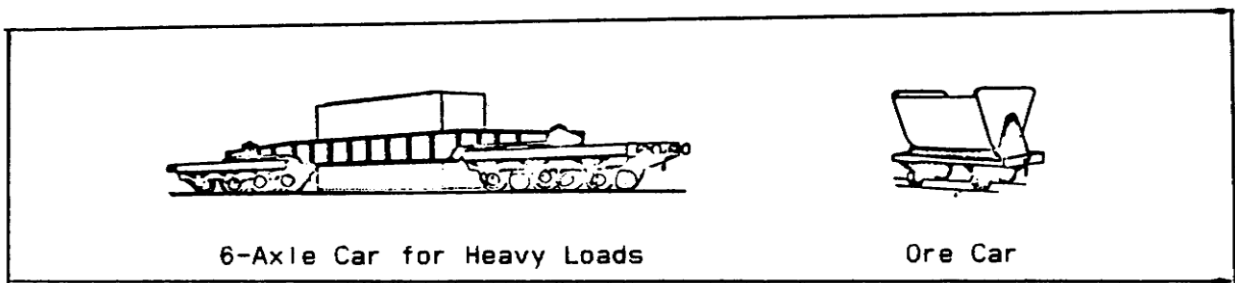

Figure 1-43. 6-Axle Car and Ore Car.
g. Other types. More rolling stock is being developed toward a specific purpose or load, such as the large boxcar or the open three-decker automobile types. Ore cars are another type of car made for one specific load. They are often found on narrow gauge track as well as standard gauge track. Special flat cars have been developed for hauling missiles (Figure 1-43).